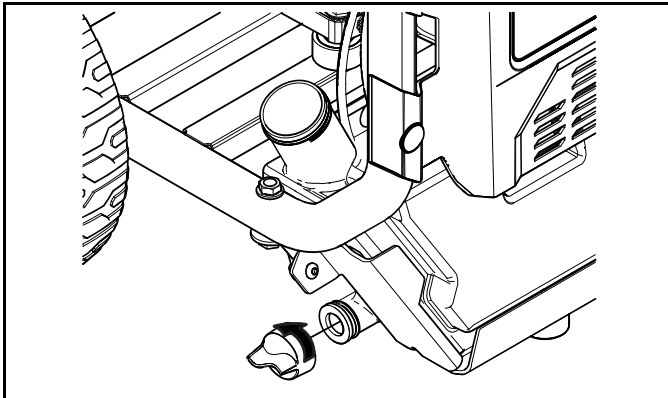

Figure 6-2. Chemical Drain Cap
5. Place container under the chemical tank drain. (Figure 6-2).